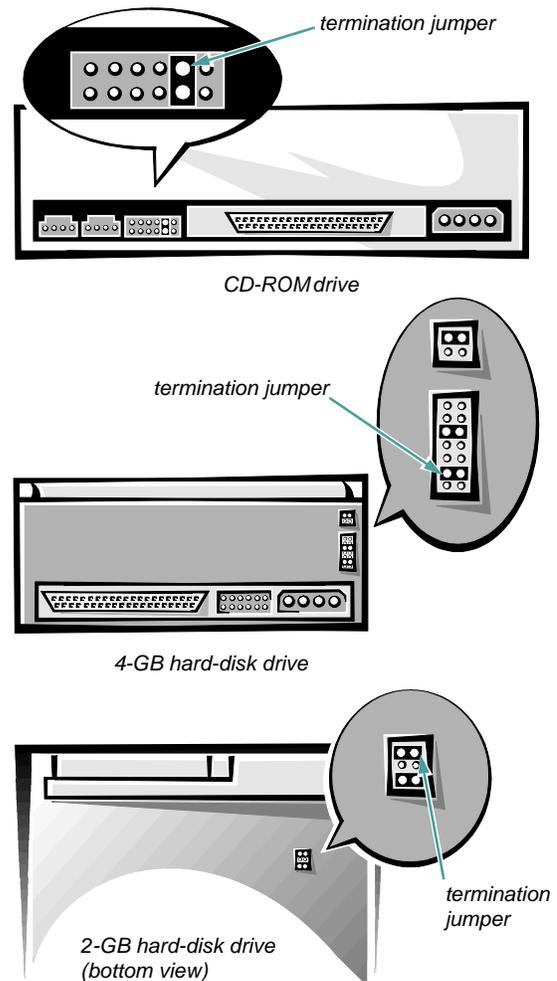

Figure 9-1. SCSI Termination Jumper Locations
- Termination is set on the SCSI hard-disk drive installed in the left bay of the internal drive bays when the drive is installed by Dell. Termination should be disabled on any other drives installed in the internal bays. Figure 9-1 shows where the termination jumper should be located on the Dell-supplied 2-gigabyte (GB) and 4-GB SCSI hard-disk drives for the PowerEdge 2100 system.
- If you install an optional SCSI controller card to control the CD-ROM drive and any other SCSI device in the external bays, you must enable termination for the SCSI controller card and the SCSI device at the end of the interface cable (preferably the CD-ROM drive). See the documentation that came with your SCSI controller card for instructions. To enable termination for the CD-ROM drive, place a jumper on the pins on the back of the CD-ROM drive as shown in Figure 9-1.